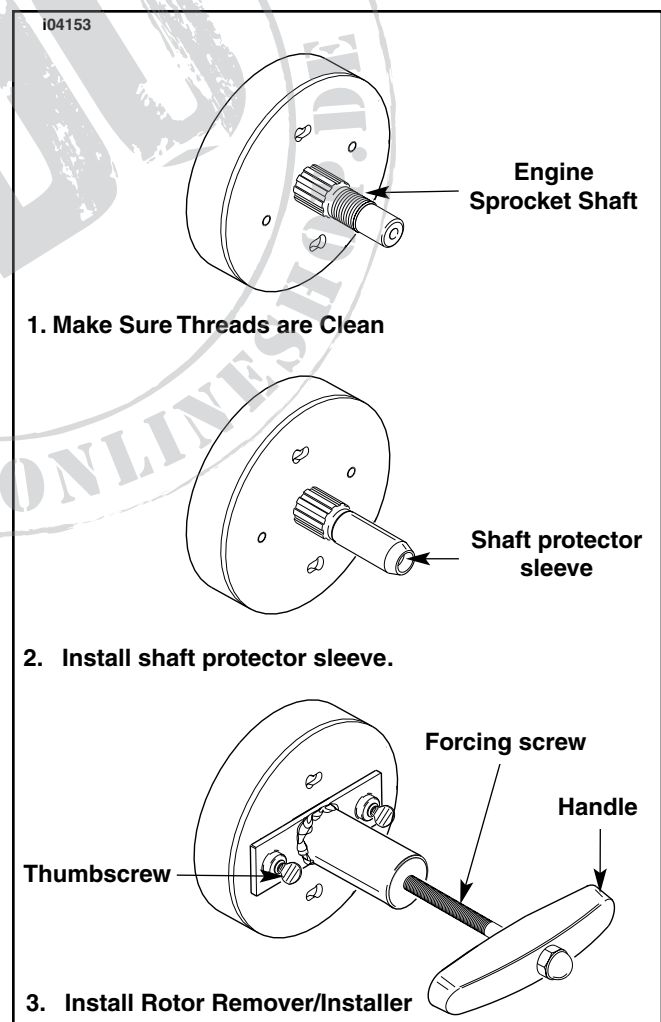

Figure 1. Install Shaft Protector and Rotor Installer
1. See Figure 1. Verify threads are clean and thread the Shaft Protector and Rotor Remove/Installer, if removed.